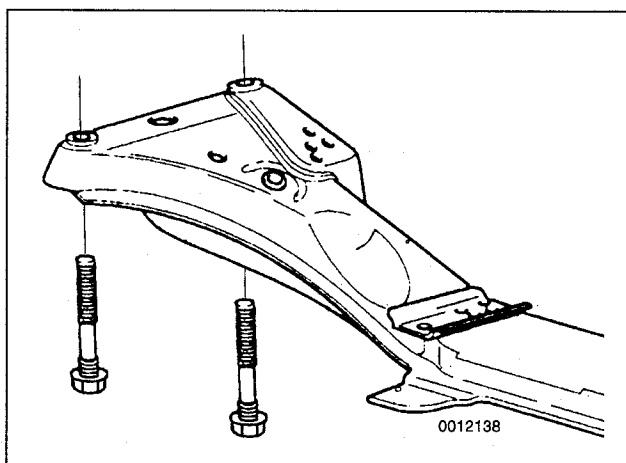

Fig. 17. Right side crossmember-to body mounting bolts.
8. Unbolt crossmember from body on both sides. See Fig. 17.